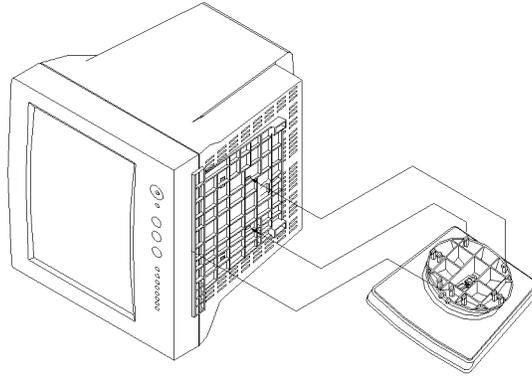

Figure 1 Installing and Removing the Swivel Base
- Carefully turn the monitor on its side or upside down. (see figure1)